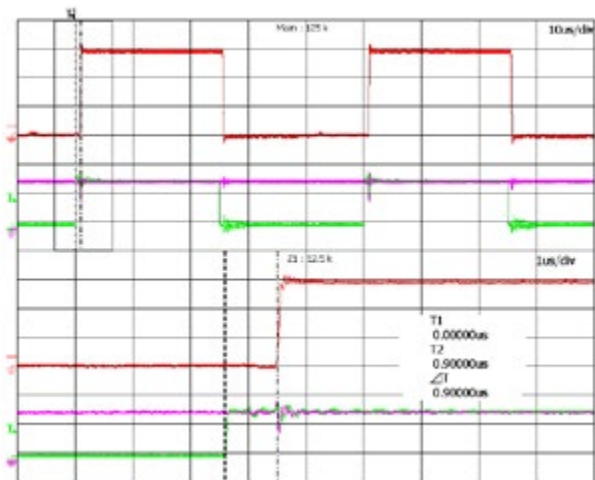

Figure 4: MIXA225PF1200TSF Operating in Complementary Mode with a Single Signal Source at IXIDM1403 Channel A and Channel B Permanently Enabled
Figure 4 and 5 display typical IXIDM1403 performance with the MIXA-225PF1200TSF module as a load.
**Note:** The lower portion of Figure 4 is magnified 10 times the upper portion.